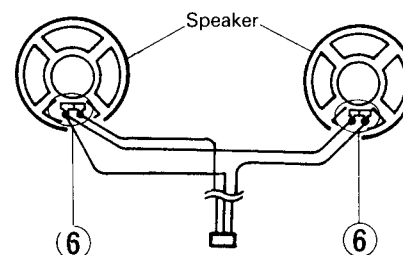

Fig. 1-3
5. Make sure of speaker wires which should be soldered as they are twisted with each other as shown in Fig. 1-3 ⑥.